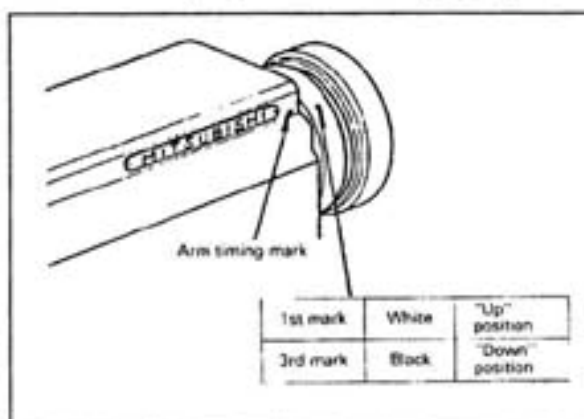
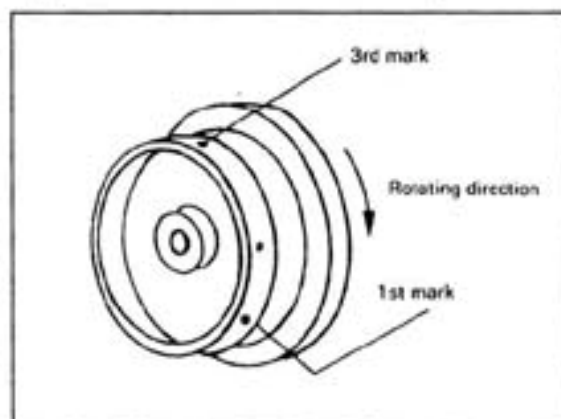
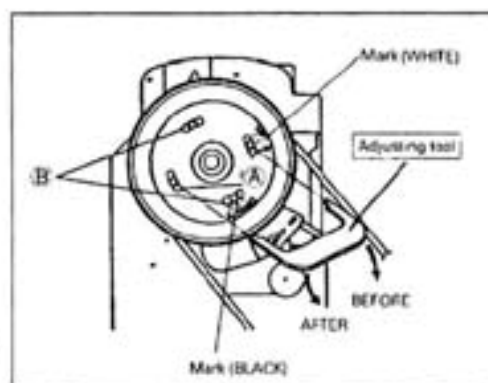

Fig.5
Fig.6
Fig.7
8、Adjustment of needle bar stop position(Fig5, Fig6, Fig7):